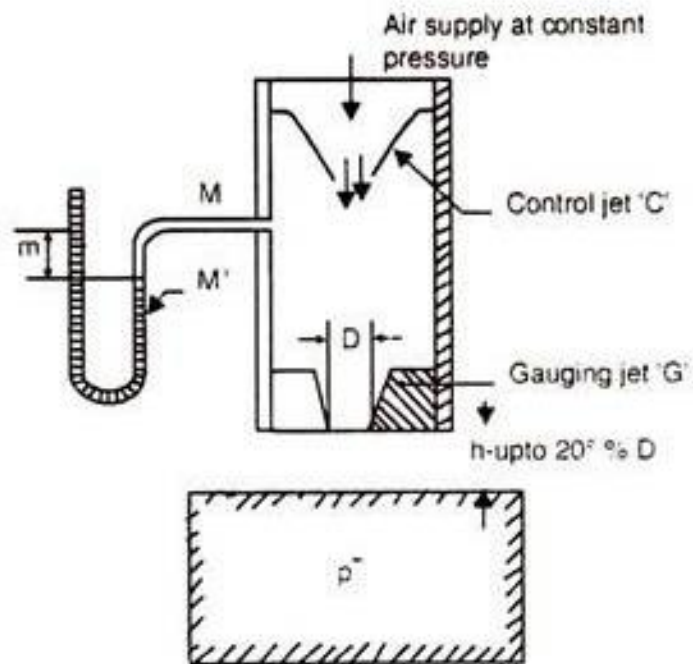

Fig. 1.16. Principle of pneumatic comparator.
- The Pneumatic Comparator is based on Bernoulli's theory. The principle of working of a Pneumatic comparator is shown in figure 1.16. Air at a low (1.5 kg./cm^2) but constant pressure, p_s , is supplied through a small jet 'c' into an intermediate chamber and then pass through a second orifice gauging jet 'G' to atmosphere.
- The component whose dimensions to be checked is placed below the gauging jet with some air gap as shown on Fig. 1.16. The amount of air escaping through gap between work piece 'p' and gauging jet 'G' will depend upon the gap h . The gap h will affect the intermediate pressure recorded by the manometer "M".